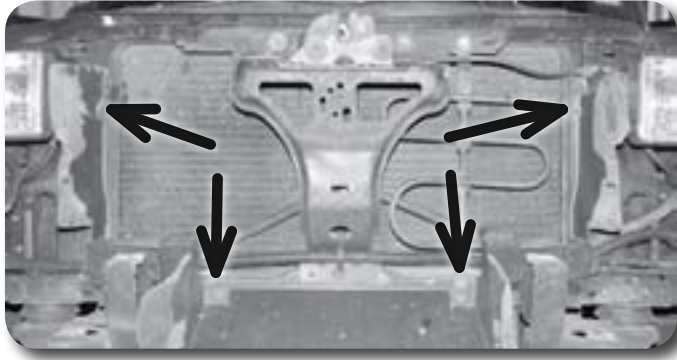

Figure 6
9. Remove the plastic air scoop **Figure 6** from the core support by carefully releasing the four plastic push in fasteners.